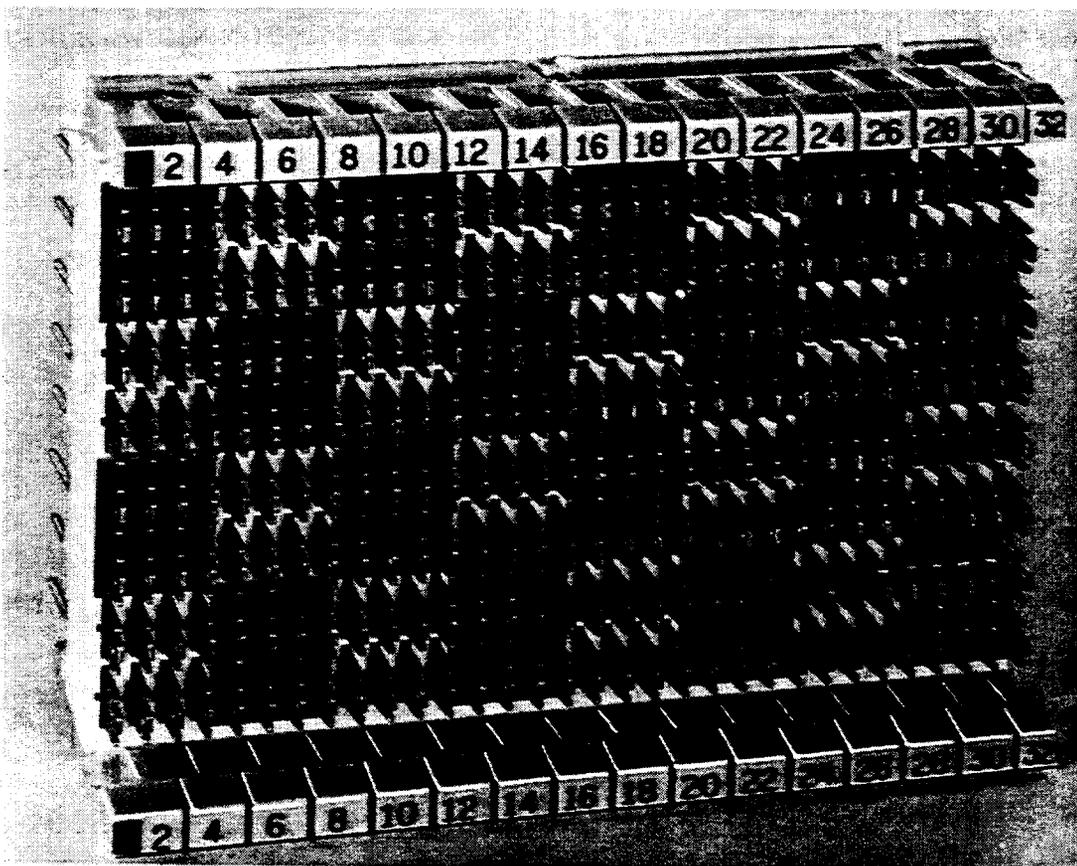

Figure 34—112-Type Connecting Block — 128-Pair Terminal Arrangement
8.10 The 112-type connecting blocks (Figure 34) are designed for use with all AT&T *COSMIC* Distributing Frame Systems. These connecting blocks are a molded plastic design with bifurcated insulation displacement-type quick-clip or wire-wrap terminals. The front of the block is used for jumper cross-connections. Wire-wrap terminals for cable terminations are located at the rear of the block. The terminals are solder plated.